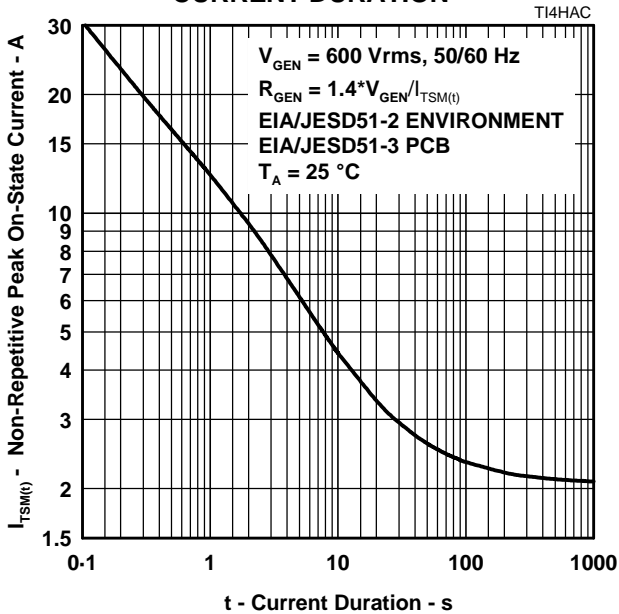

Figure 8.
5. EIA/JESD51-2 environment and EIA/JESD51-3 PCB with standard footprint dimensions connected with 5 A rated printed wiring track widths. See Figure 8 for the current ratings at other durations. Derate current values at  $-0.61\% / ^\circ\text{C}$  for ambient temperatures above  $25^\circ\text{C}$
The protector can withstand currents applied for times not exceeding those shown in Figure 8. Currents that exceed these times must be terminated or reduced to avoid protector failure. Fuses, PTC (Positive Temperature Coefficient) resistors and fusible resistors are overcurrent protection devices which can be used to reduce the current flow. Protective fuses may range from a few hundred milliamperes to one ampere. In some cases it may be necessary to add some extra series resistance to prevent the fuse opening during impulse testing. The current versus time characteristic of the overcurrent protector must be below the line shown in Figure 8. In some cases there may be a further time limit imposed by the test standard (e.g. UL 1459 wiring simulator failure).